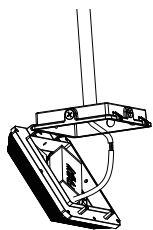

Fig.1-5
5. Connect the branch circuit power leads to the fixture power leads, black to black/brown (line), white to white/blue (neutral), and green to green/yellow (ground) (Fig.1-5)